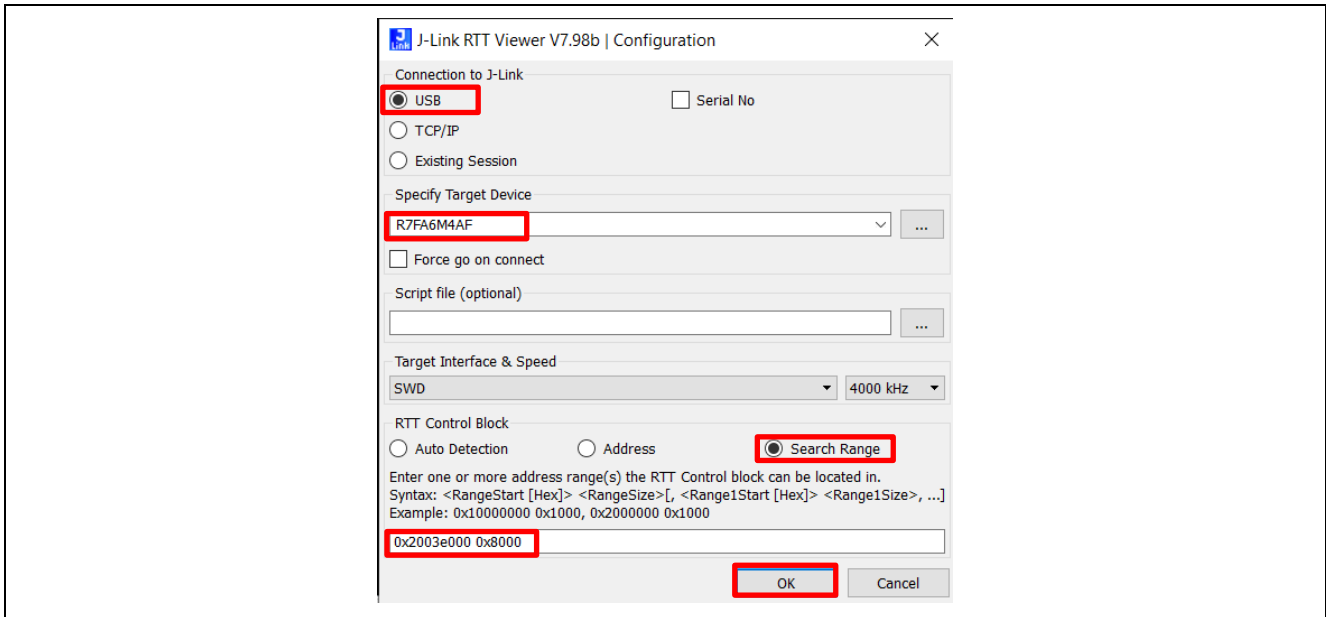

Figure 17. Configure the RTT Viewer
- Open the J-Link RTT Viewer and set up the same configuration as Figure 17.
6. Open the J-Link RTT Viewer and set up configuration similar as Figure 17 except change the search range to `0x20000000 0x8000`.
4. Confirm the same configuration as shown in Figure 17, then click **OK**.